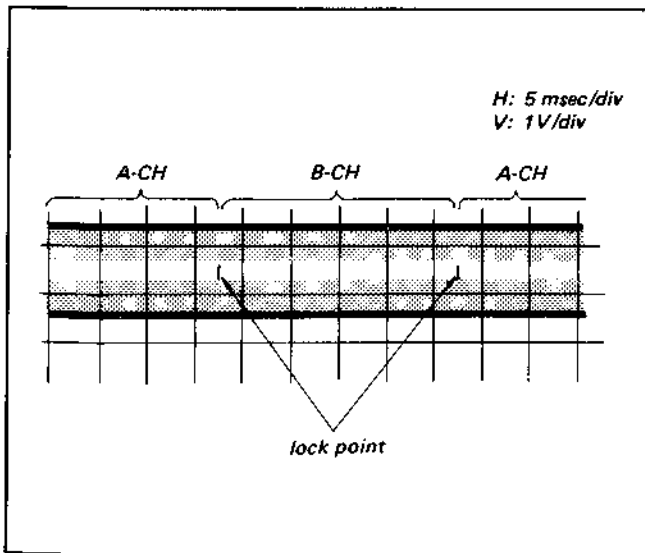

Fig. 4-4-10. AFC offset adjustment
- (3) Adjust RV22 so that the lock points of the A-CH and the B-CH are at the points shown in Fig. 4-4-10.